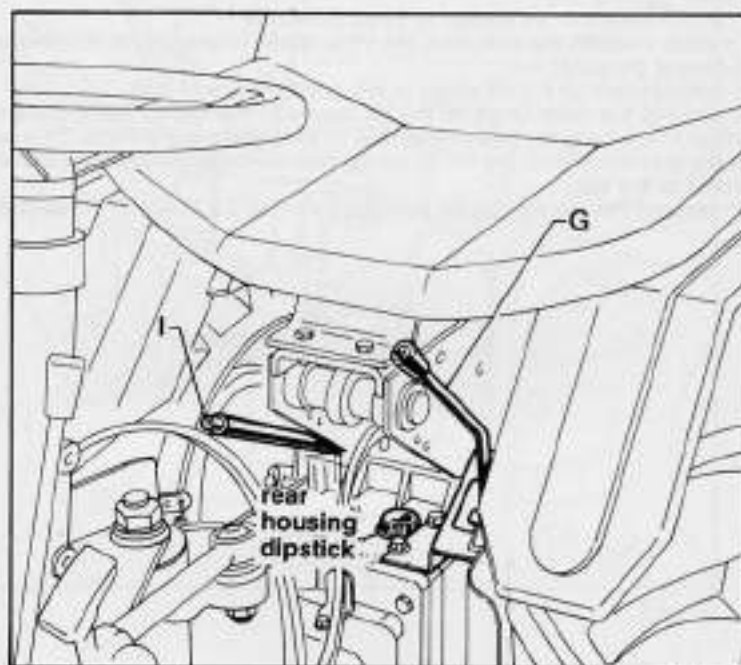

Fig. 7
**G - INDEPENDENT OR SYNCHRONIZED POWER TAKE-OFFS LEVER (fig. 7)**
I - HAND BRAKE LEVER (fig. 7)
- rear differential housing (fig. 7)